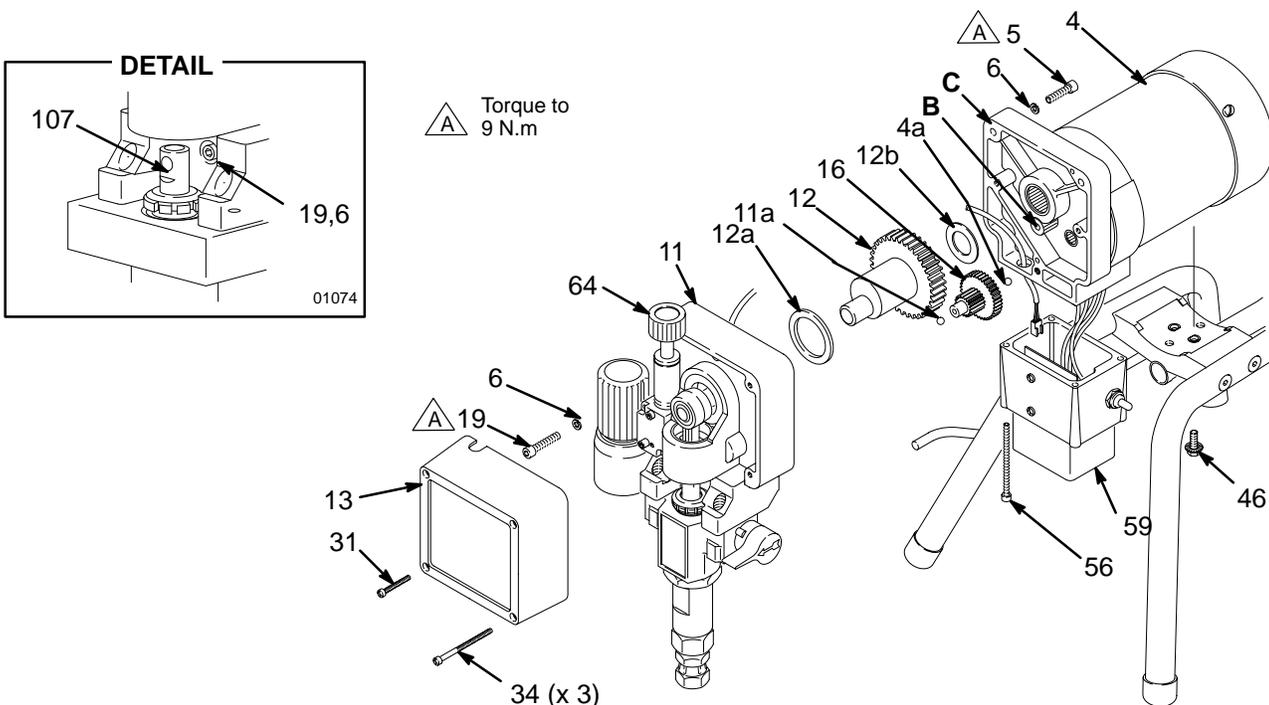
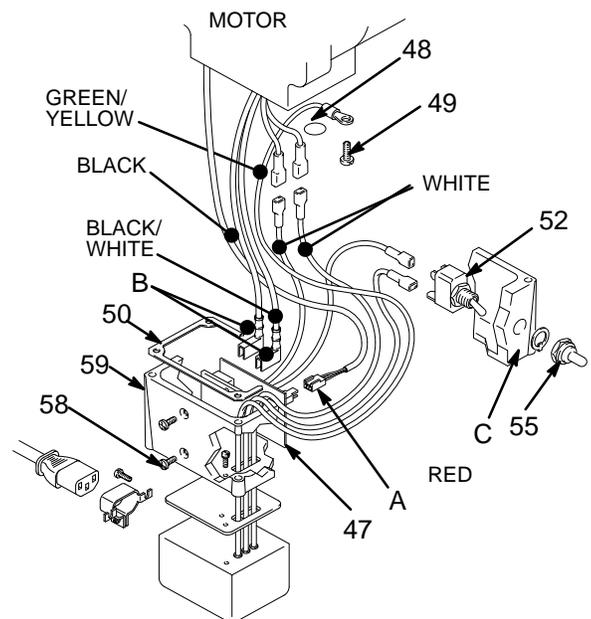

Fig. 25
Fig. 26
2. Try to stop the pump with the piston rod (107) in its lowest position. To lower the piston rod manually, rotate the motor fan blades. Use a screwdriver to push the retaining spring (18) up and push out the pin (17). See Fig. 25.
3. Remove the screws (56) and lower the junction box (59). Disconnect the motor wires and the pressure control wire (A) from the motor start board. Refer to Fig. 26 on page 29.
4. Remove the drive housing cover (13).
5. Remove the pressure control (69) while guiding the harness (A) through the motor.
6. Turn the displacement pump rod (107) so the pin hole aligns with the bottom drive housing screw (19). See the DETAIL below. Remove the three drive housing screws and lockwashers (19,6).
8. Tap the lower rear of the drive housing (11) with a plastic mallet to loosen the motor. Pull the drive housing straight off the motor. Do not allow the gear (16) to fall. Read the CAUTION on page 30.
9. Remove the two screws (46) and lift the motor off the base (66).
12. Connect the wires in the junction box. Refer to Fig. 26 on page 29. Install the junction box.
13. Reconnect the piston rod (107) to the drive housing; see page 25, Installing the Pump, Step 2 and the Warning that follows the step.
1. Remove the junction box screws (56) and lower the junction box (59). See Fig. 25.
2. Disconnect the motor wires (B) and the 3-wire connector (A) from the motor start board (47). Disconnect the wire from the ON/OFF switch. Observe where connections are made. See Fig. 26.
3. Remove the screws (58) and motor start board (47). Transfer the white thermal paste from the old board to the new board. See Fig. 26.
4. Install the new motor start board. Reconnect all wires. Mount the junction box. See Fig. 26.
2. Remove the nut and rubber boot (55).
3. Disconnect the wires from the ON/OFF switch (52) and replace the switch. See Fig. 26.
4. Powder the inside of the rubber boot (55) with talcum, then shake the excess out of the boot. Install the nut and rubber boot and tighten.